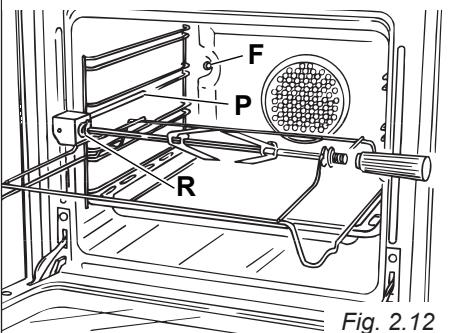

Fig. 2.12
USING THE ROTISSERIE (Only for the "fan assisted" models - models having also the position , fan motor, on the oven light/rotisserie control knob) - fig. 2.12
- Insert the rod into the side gear opening "R" (fig. 2.12).